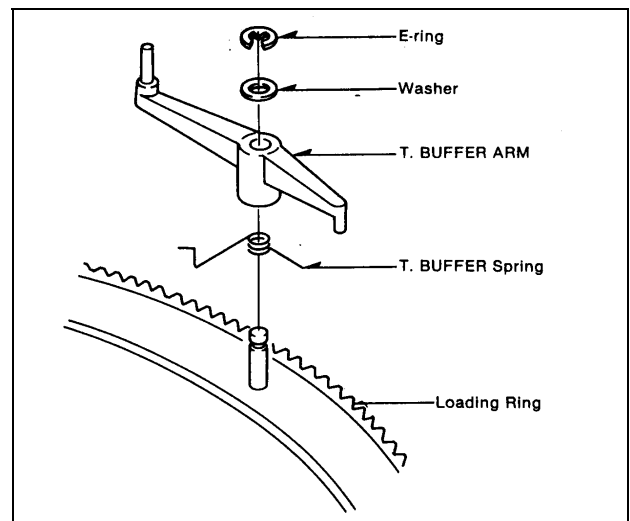

Figure 7-28-1
1. Remove E-ring and washer and pull out T. Buffer Arm as shown in Figure 7-28-1.